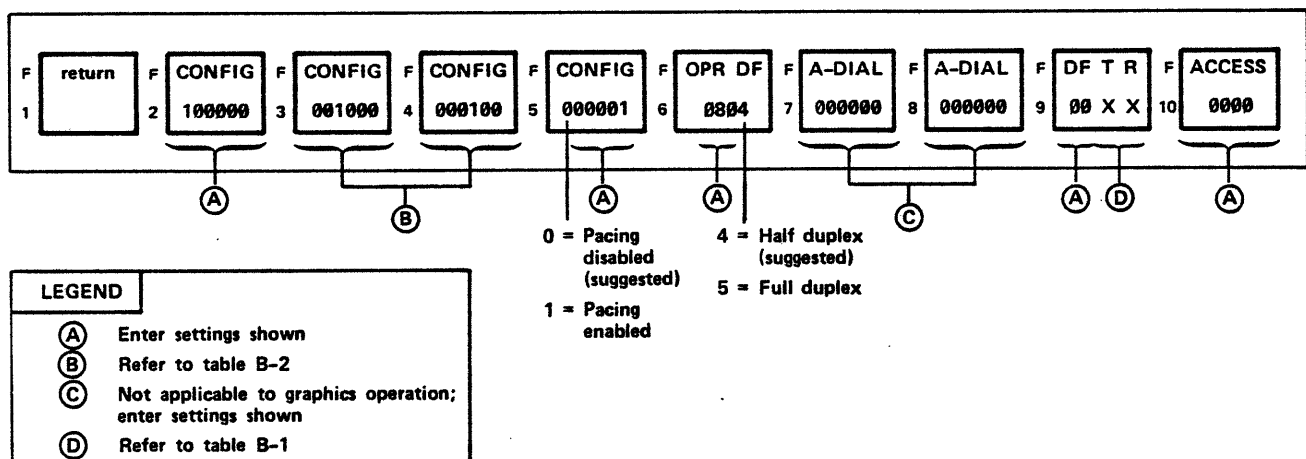

Figure B-4. Mode Installation Parameters
9. Enter GRFX or any other name of four letters or less that suggests graphics. (This name will appear in the mode selection menu.) The terminal displays a set of mode installation parameters at the bottom of the screen (figure B-4), with the cursor in the first position of the F2 CONFIG box.
10. Set mode installation parameters as shown in figure B-4. (For more detailed parameter setting information refer to the 721-XO Display Terminal Hardware Reference Manual listed in the preface.) The cursor automatically advances left to right upon entry of parameters.